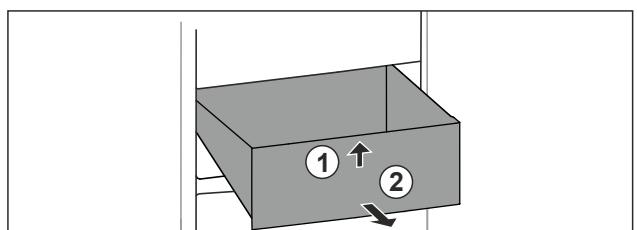

Fig. 59
- ▶ Lift up drawer at the front. Fig. 59 (1).
- ▶ Remove drawer to the front. Fig. 59 (2).